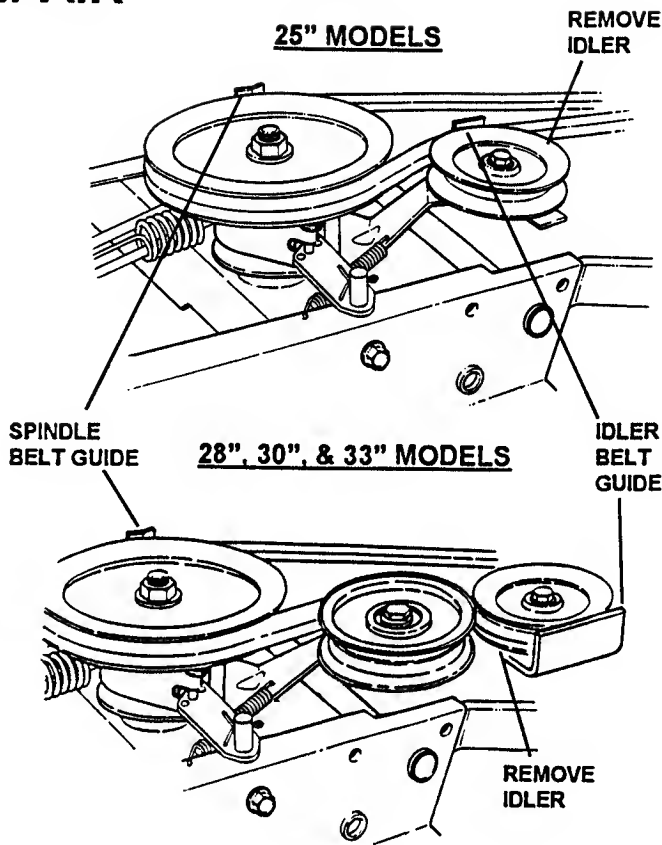

FIGURE 4.24
2. Move transmission shift lever to the neutral (N) position.
4. Route new belt through engine belt guide (engine belt guide shown in Figure 4.24) guide to engine pulley. Route belt as shown for the individual models shown in Figure 4.23.